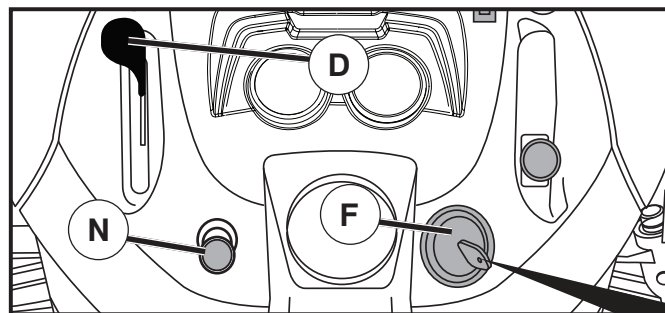

Fig. 6
- Move throttle control (D) to slow position.
- Turn ignition key (F) to "STOP" position and remove key. Always remove key when leaving tractor to prevent unauthorized use.
### TO USE THROTTLE CONTROL (D) (See Fig. 6)
### TO USE CHOKE CONTROL (N) (See Fig. 6)